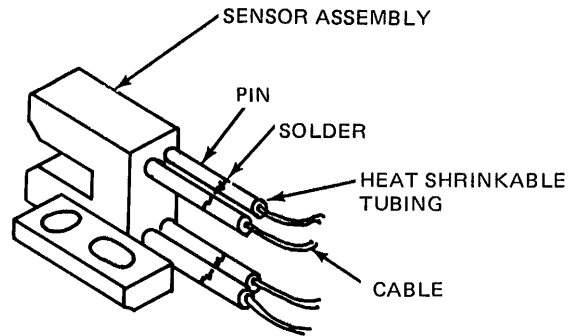

Figure 4-8 Write Protect or Media-In Sensor Connections
- b. Remove the heat-shrinkable tubing from the sensor connections and unsolder the wires (see Figure 4-8).